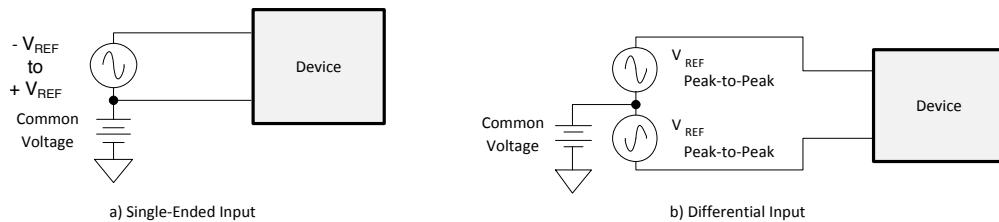
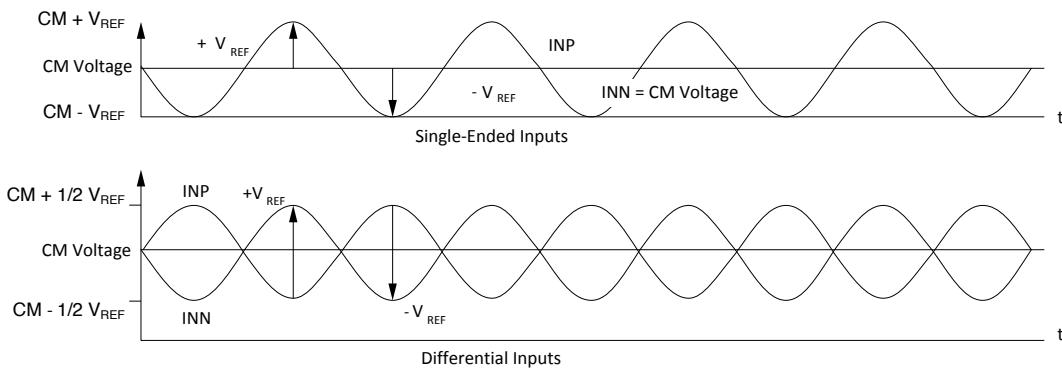

Figure 49. Methods of Driving the ADS1298: Single-Ended or Differential
Figure 50. Using the ADS1298 in the Single-Ended and Differential Input Modes
The analog input to the ADS129x is fully differential. Assuming PGA = 1, the differential input (INP – INN) can span between $-V_{REF}$ to $+V_{REF}$. Note that the absolute range for INP and INN must be between AVSS – 0.3V and AVDD + 0.3V. Refer to Table 13 for an explanation of the correlation between the analog input and the digital codes. There are two general methods of driving the analog input of the ADS129x: single-ended or differential, as shown in Figure 49 and Figure 50. Note that INP and INN are 180°C out-of-phase in the differential input method. When the input is single-ended, the INN input is held at the common-mode voltage (CM), preferably at mid-supply. The INP input swings around the same common-mode voltage and the peak-to-peak amplitude swings from CM - V_{REF} to CM + V_{REF} . When the input is differential, the common-mode is given by (INP + INN)/2. Both the INP and INN inputs swing from CM + 1/2 V_{REF} to CM - 1/2 V_{REF} . For optimal performance, it is recommended that the ADS129x devices be used in a differential configuration.